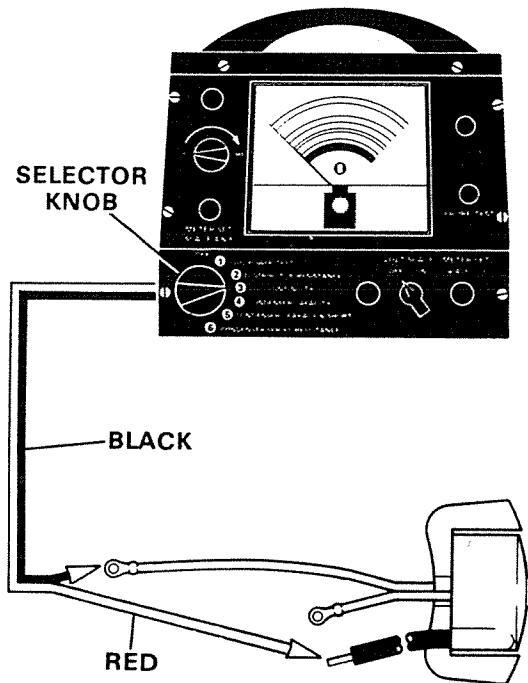

Figure 22. Testing Coil Continuity, Test #2. (Secondary)
5. Turn selector knob to "COIL CONTINUITY" position. Figure 22.